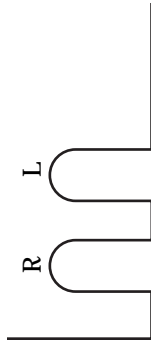

FIGURE 4-2 Detail of Rail Slots
Use the slot marked L for the left rail. Use the slot marked R for the right rail. (FIGURE 4-2)
2. Before you install the rails into the cabinet, loosely start two stopper screws into each rail (see FIGURE 4-2).
3. Working from the back of the cabinet, loosely start two screws for the mounting rails into the cabinet (see FIGURE 4-2).
The large hole is oriented near the rear for both rails. Use the slot marked L for the left rail. Use the slot marked R for the right rail. (FIGURE 4-2)